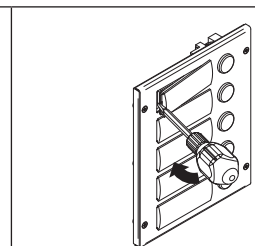

Fig. 4
- Move the screwdriver to the left as shown in Fig. 4 to extract the card name holder;